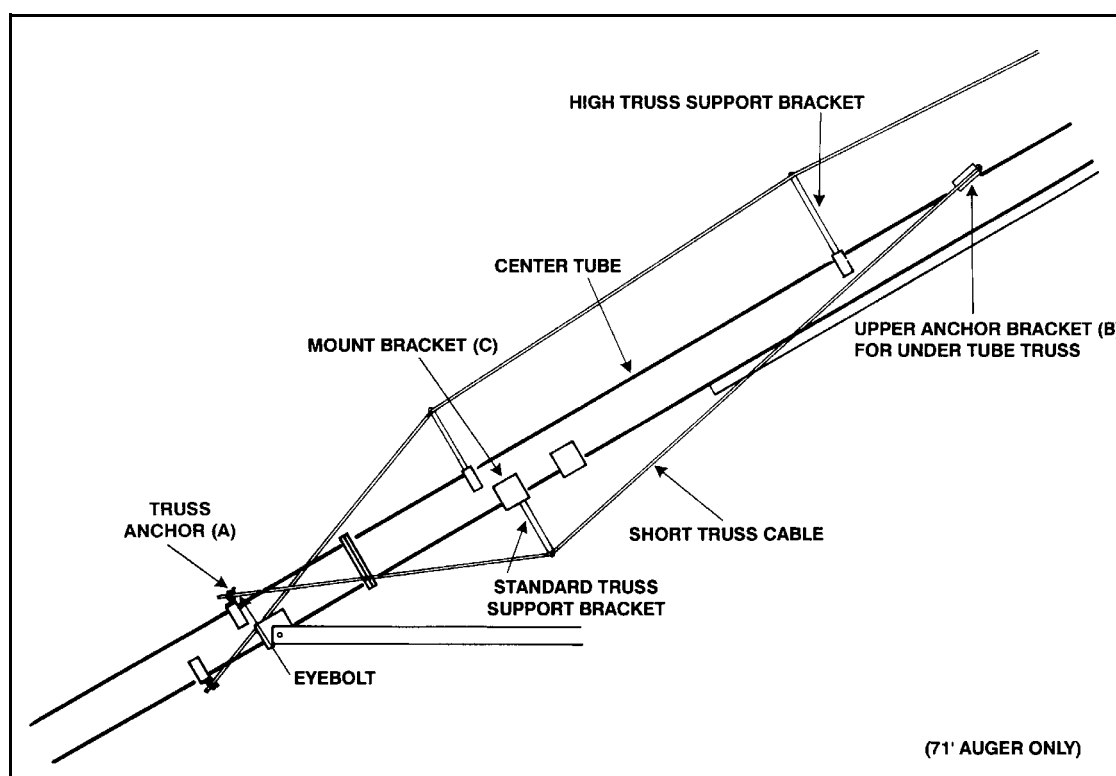

Figure 3.15
9. For 71' augers only (Figure 3.15):
- Fasten short truss anchor (A) to lower auger tube with 7/16" x 1" bolts and locknuts.
- b. Fasten high truss support bracket to mount (C) on bottom of center tube with 7/16" x 1" bolts and locknuts.
- d. Pull truss cable over truss support bracket, around upper truss anchor (B) and back over truss support bracket to short truss anchor, holding it loosely in place with one cable clamp at upper truss anchor and 2 cable clamps at truss support bracket.